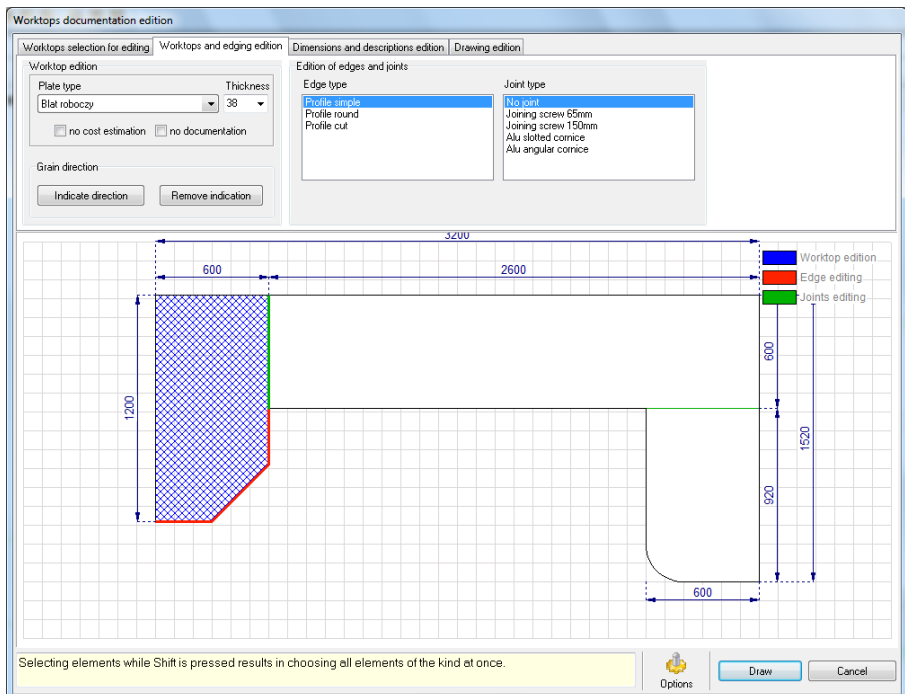

Fig. 212 – Worktops documentation window
After clicking the **Worktops documentation**  icon, you will gain access to worktops drawings editor (Fig. 212), in which you can create and edit technical drawings of worktops, existing in the project, which can be added to the overall technical documentation.
- selected edges turn red, and connections between worktops – green (Fig. 212).